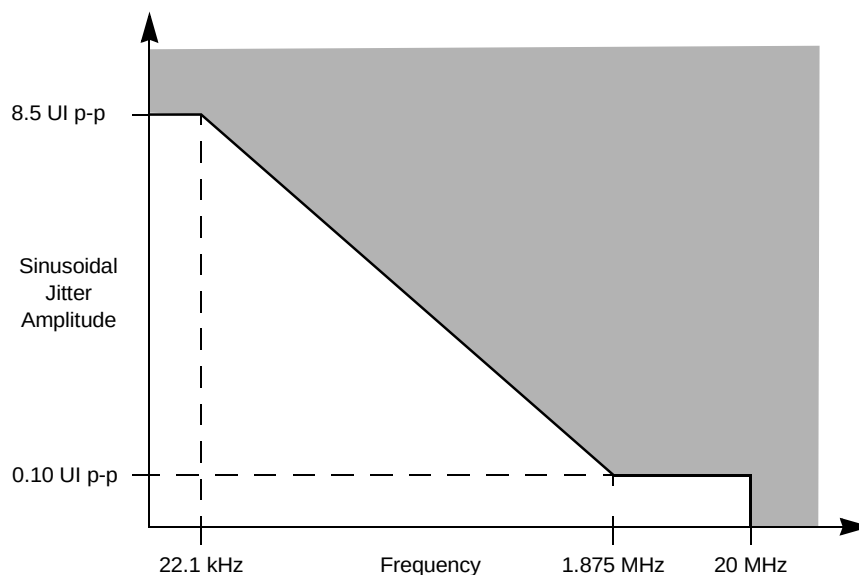

Figure 18. Single Frequency Sinusoidal Jitter Limits
2. Total jitter is composed of three components, deterministic jitter, random jitter, and single frequency sinusoidal jitter. The sinusoidal jitter may have any amplitude and frequency in the unshaded region of Figure 18. The sinusoidal jitter component is included to ensure margin for low frequency jitter, wander, noise, crosstalk, and other variable system effects.
Notes: 1. See Figure 18 for single frequency sinusoidal jitter limits 2. Each UI is 800 ps $\pm$ 100 ppm.
Notes: 1. Measured at receiver. 2. Refer to RapidIO™ 1x/4x LP Serial Physical Layer Specification for interpretation of jitter specifications. Also see Figure 18 . 3. Each UI is 800 ps $\pm$ 100 ppm.